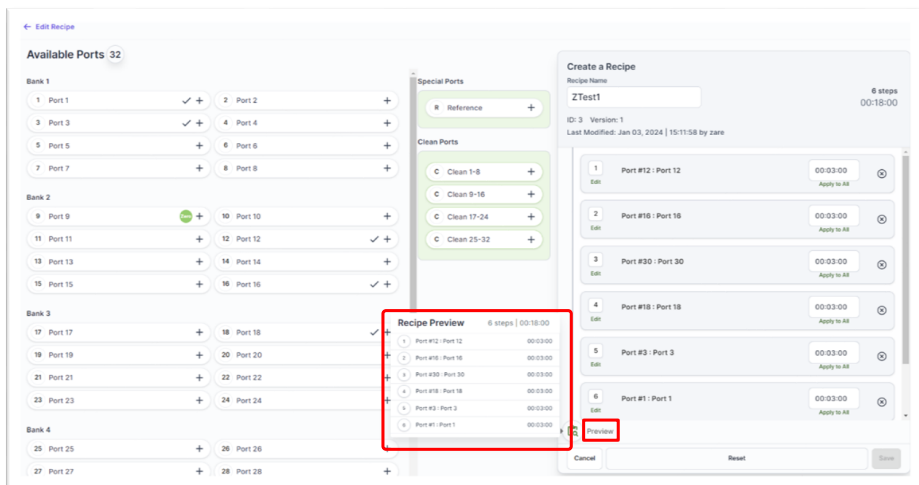

Figure 29: Recipe Preview Selected
- 13. The recipe sequence may be previewed at any time by clicking the icon shown to the left. A condensed window pops up showing the entire recipe sequence (Figure 29). Click away from the window to close it.